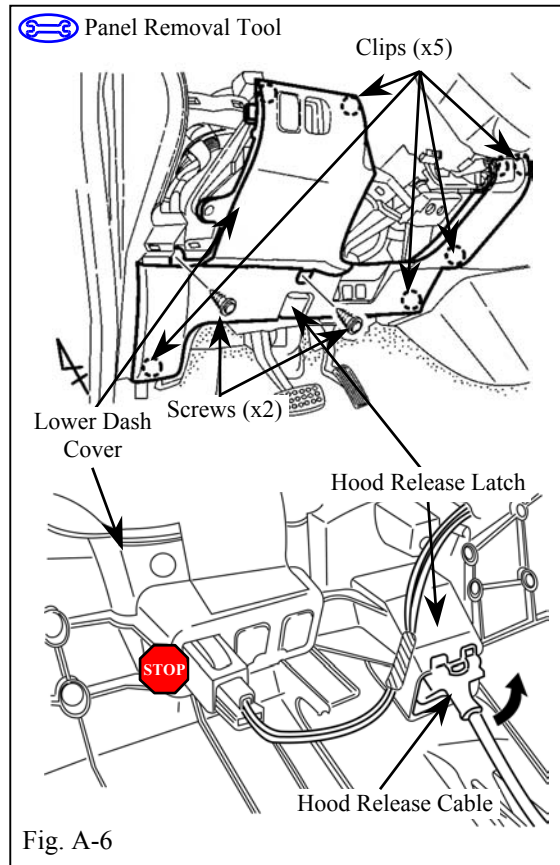

Fig. A-6
6. Remove the lower dash cover. (Fig. A-6)
- i. Remove two (2) screws securing the lower dash cover.
- iii. Release the five (5) panel clips and two (2) locator pins.